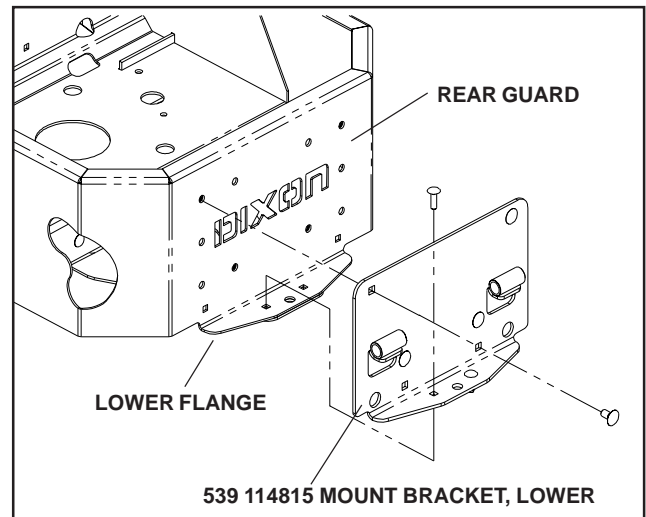

FIGURE 4
3. Place (539 114815) Mount Bracket, Lower in place and secure using four (539 111785) 3/8 x 3/4 carriage bolts, four (539 976979) 3/8 nyloc hex nut and two (539 107271) 5/16 x 1 carriage bolts. Reuse the two 5/16 nyloc hex nuts previously removed from the 5/16 x 3/4 carriage bolts. See Figure 4.